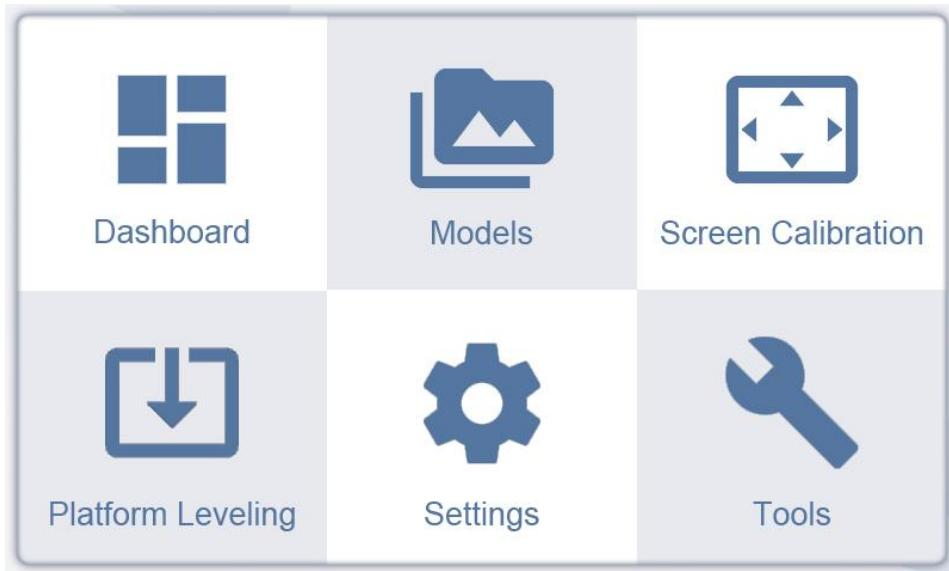

Figure 3-3
1、The default factory language configuration of this device is English. As shown in Figures 3-3 and 3-4.